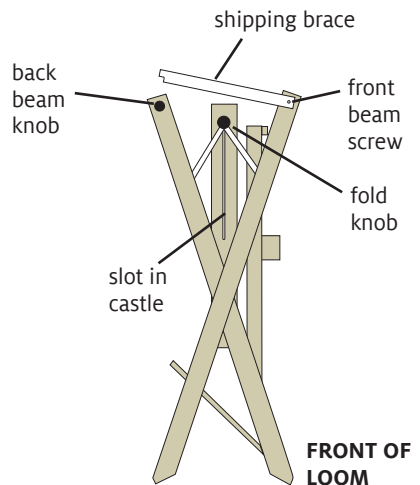

FIGURE 1: UNFOLDING THE LOOM
2. Slightly loosen the black fold knobs on each side of the loom (Figure 1). Generally, a single turn will do.
27. Start folding the loom: Loosen the fold knobs one full turn and pull them up in their slots (Figure 1, page 3).